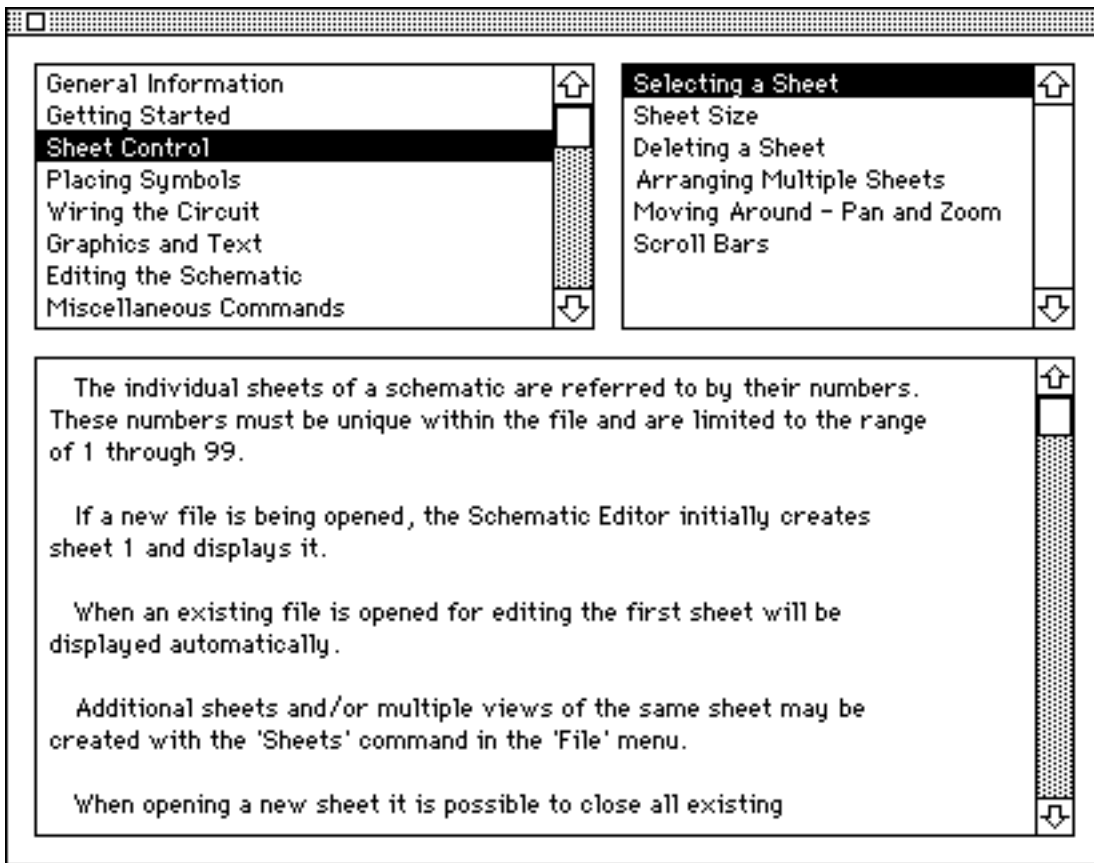

Figure 5-1 Help Dialog Box
1. Select the Apple->Help command. A Dialog box is displayed similar to that shown in Figure 5-1